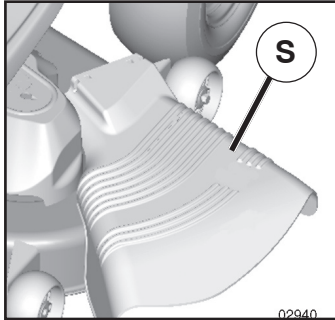

Fig. 21
**CAUTION:** Do not operate the mower without either the entire grass catcher, on mowers so equipped, or the deflector shield (S) in place (See Fig. 21).